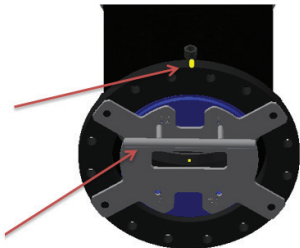

Figure D-12
**NOTE:** If there is not already a mark on the Insertion Housing, make a line between the top 2 flange holes on the insertion housing. This line must be in line with the pipe for a proper installation (see Figure D-12).